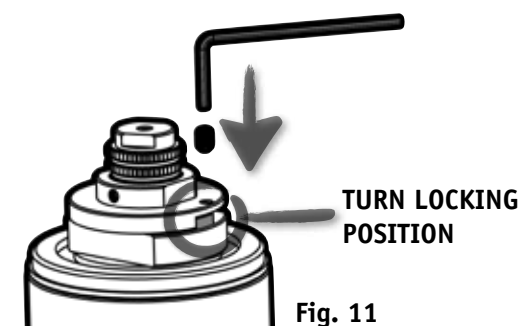

Fig. 11
4) Rotate HANDLE STOPPER 12 into TURN LOCKING POSITION and insert HANDLE STOPPER SCREW 10 into ROTATION LOCK HOLE 13 (fig. 11), ensuring the HANDLE STOPPER 12 is locked in position